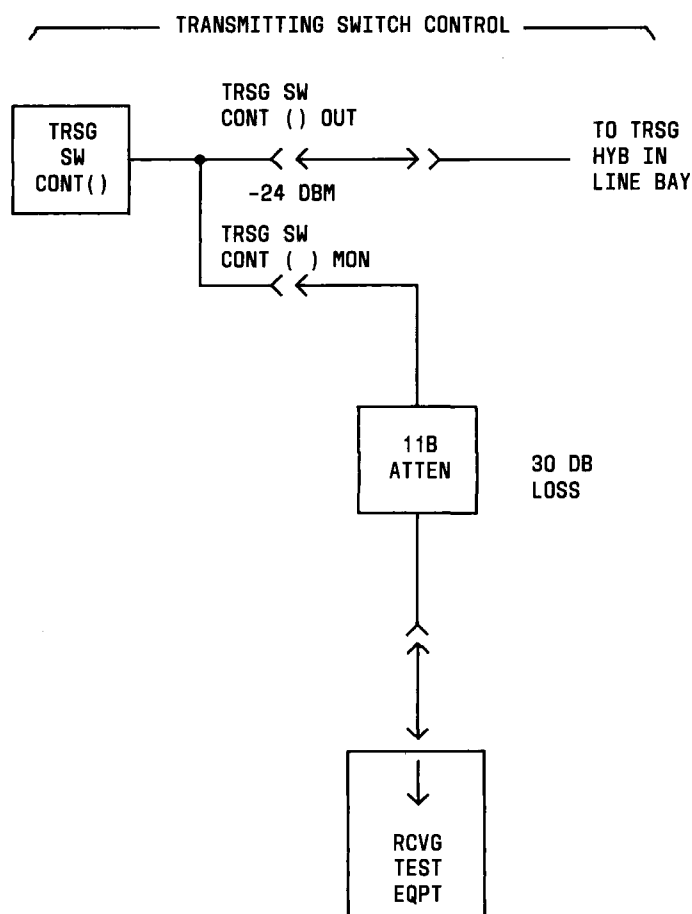

Fig. 2—Transmitting Terminal Release Identification Signal Measurement
- 6 Prepare the RTE to make a bridged measurement of the 282-kHz signal at the TRSG SW CONT ( ) MON jack (Fig. 2).